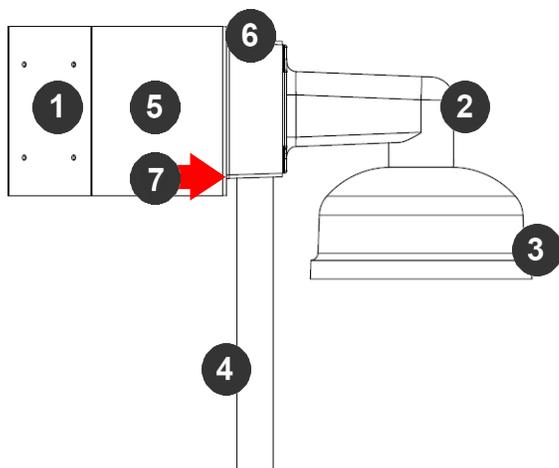

Figure 17: Attach corner mount adapter to exterior corner wall
6. Attach the Wall Mount Adapter (SV-WMJB) to the Corner Mount Adapter (AV-CRMA) as shown in Figure 17.